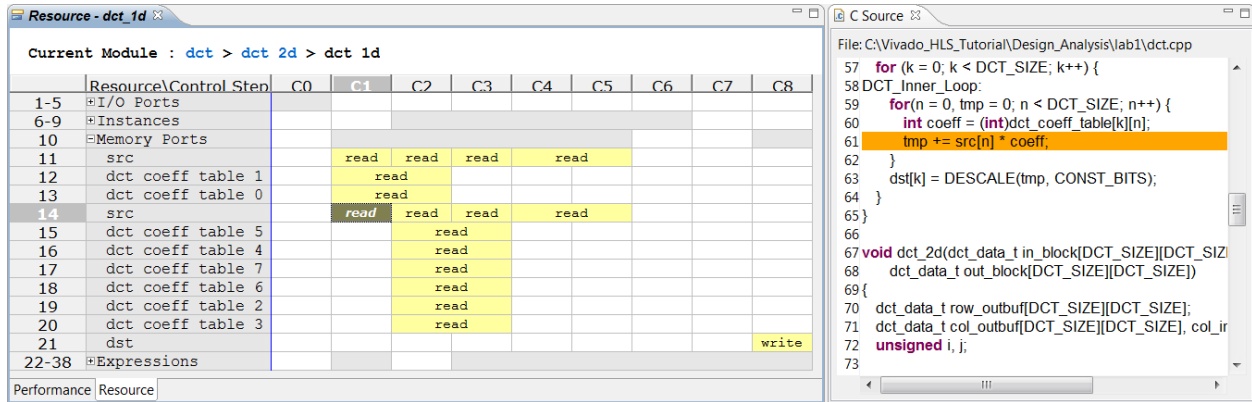

Figure 130: Memory resource src and Source Code
17. Right-click and select **Goto Source** to see the view shown in **Figure 130**.
Figure 130 shows this read on the src variable is from the read operation inside loop DCT_Inner_Loop. This loop was automatically unrolled when DCT_Outer_Loop was pipelined and all operations in this loop can occur in parallel (if data dependencies allow).
The eight reads are being forced to occur over multiple cycles because the array src is implemented as a block RAM in the RTL and a block RAM can only allow two reads (maximum) in any one clock cycle. In Figure 130, the read operations take 2 clocks cycles: a cycle to generate the address for the block RAM and a cycle to read the data. Only the launch (address generation cycle) is shown because it overlaps with the operation in the next clock cycle.